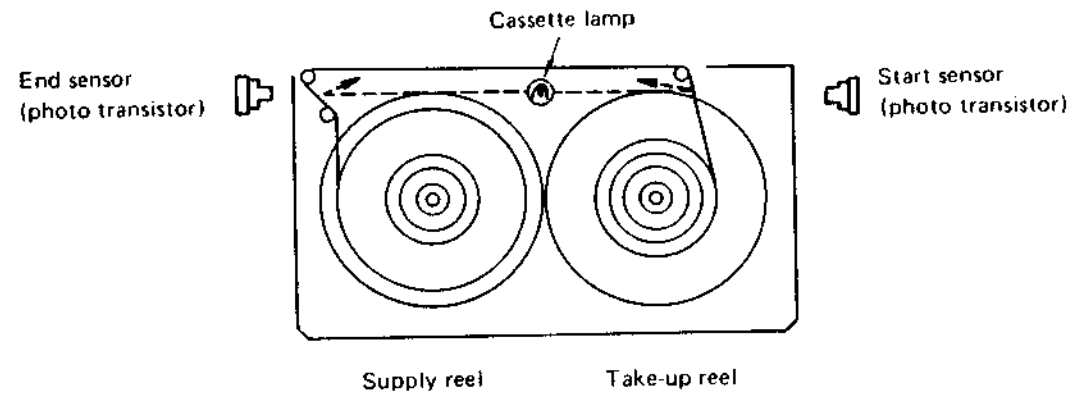

Fig. 2-4(c)
2. As shown in Fig. 2-4(b), when the light beam from the cassette lamp reaches the end sensor when in the Play/Record or Fast Forward mode, the unit will be stopped automatically. Also, when the light beam shines on the end sensor (photo transistor), Play/Record or Fast Forward modes will not operate.